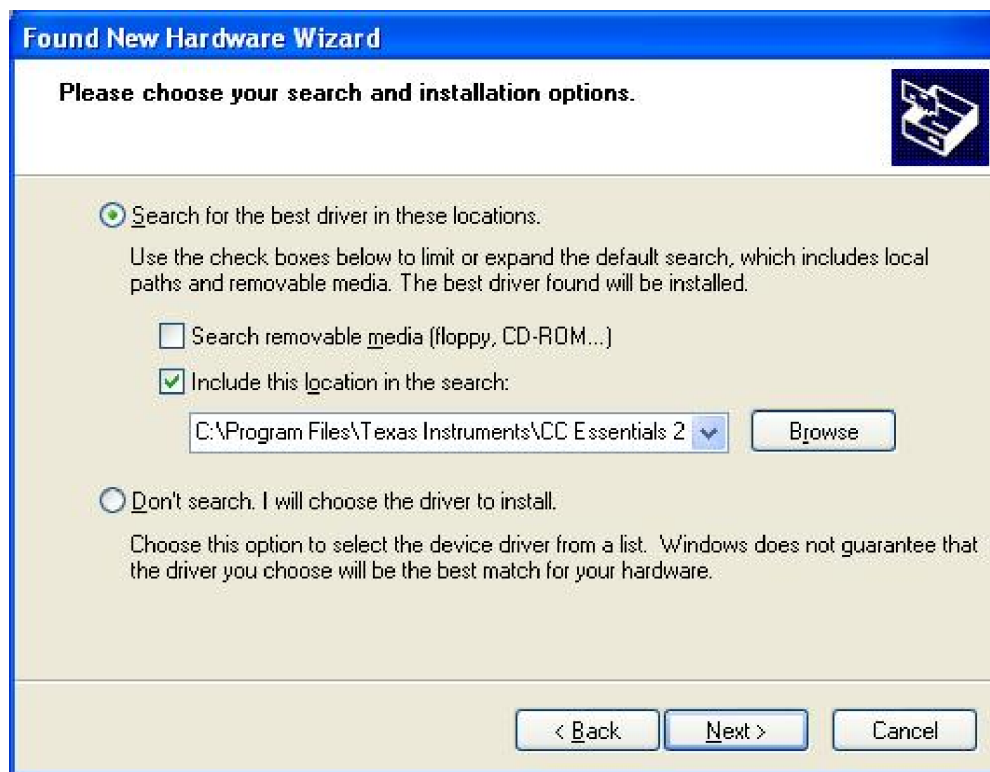

Figure F-3. WinXP Driver Location Selection Folder
6. Browse to the folder where the driver information files are located (see Figure F-3). On a default installation the files are located in the following directory: